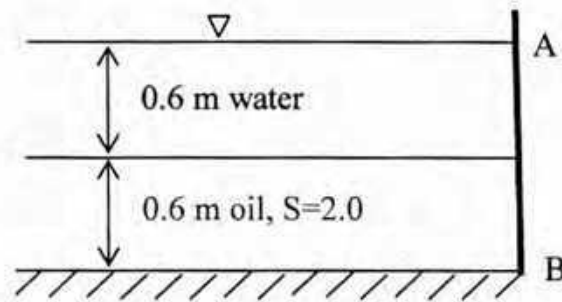

Figure 5
- 4 a. Find the magnitude and the line of action of the resultant force exerted upon the vertical wall AB shown in Figure 5. Assume length of AB is 0.6 m. 6